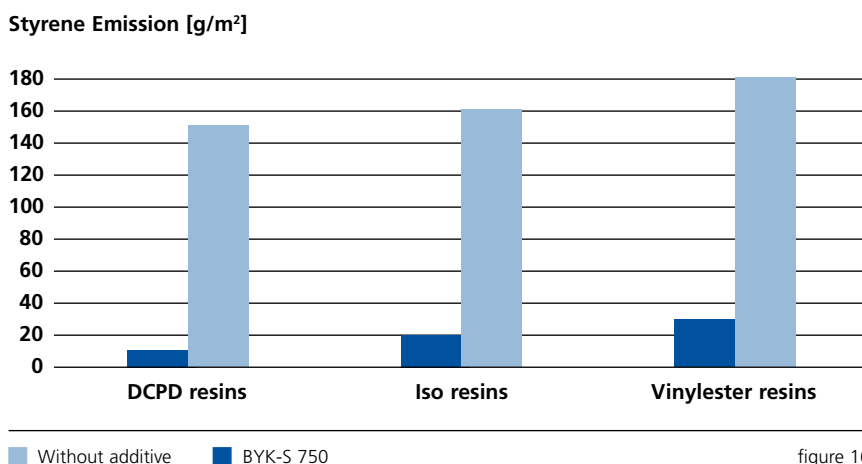

figure 16
**BYK-S 750** is also very effective in vinylester and isophthalic resins (figure 16).